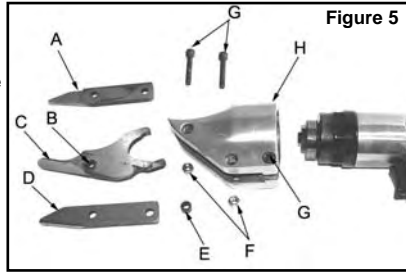

Figure 5
NOTE: Refer to Figure 5 for steps 2-11.
- Remove the front 2 allen screws that hold the blades in place, being careful not to lose the spacers (B & E) or the nuts (F) that are on the end of the screws.
- Remove the 2 side blades (A & D), center blade (C) and spacers (B & E).
- Lay out the new blades as shown in Figure 5.
- Lubricate and then insert spacer (B) into the center blade (C).
- Reassemble the blades into the cutting head by placing the center blade (C) on top of side blade (A) then place side blade (D) on top of center blade (C).